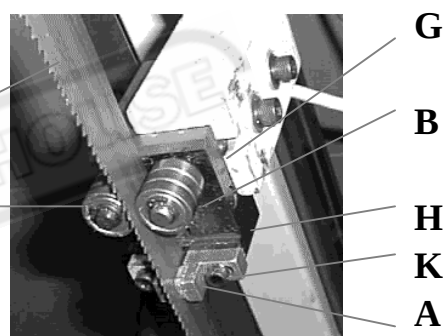

Fig.9
1. The back of the blade (A) (fig. 9) should ride against the back-up bearing (B).
2. The saw blade (A) should also ride between and lightly
touch the two blade guide roller bearings (E) and (F) (fig. 9)
The front bearing (E) (fig. 9) is mounted on an eccentric, and can easily be adjusted to suit blade thickness by loosening set screw (G) and turning shaft (E).
3. The carbide blade guides (H) (fig 9) should also be adjusted so they lightly touch the blade by loosening screw (K).
4. The blade guide roller bearings, carbide guides and backup bearing on holder (fig 9 and 10) should be adjusted in the same manner.